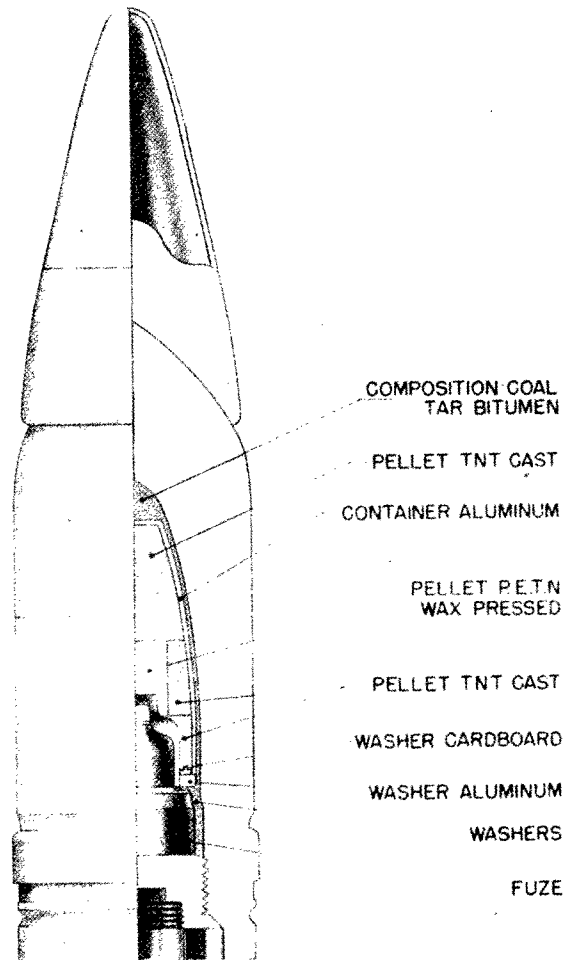

Figure 376—A. P. C. Tank Gun Projectile, 75-mm Pzgr. Patr. Kwk.
**GERMAN NOMENCLATURE:** Pzgr. Patr. KwK (Panzergranate Patrone Kampfwagenkanone). (See fig. 376.)